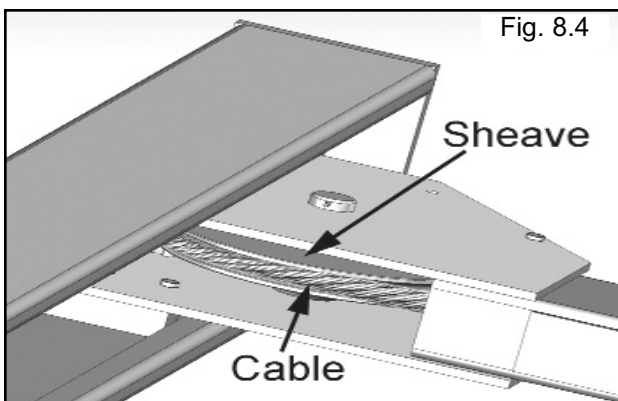

Fig. 8.4
3. After routing the cables double-check to make sure all are properly positioned and remain within the grooves of ALL sheaves. (See Fig. 8.4 -8.5)